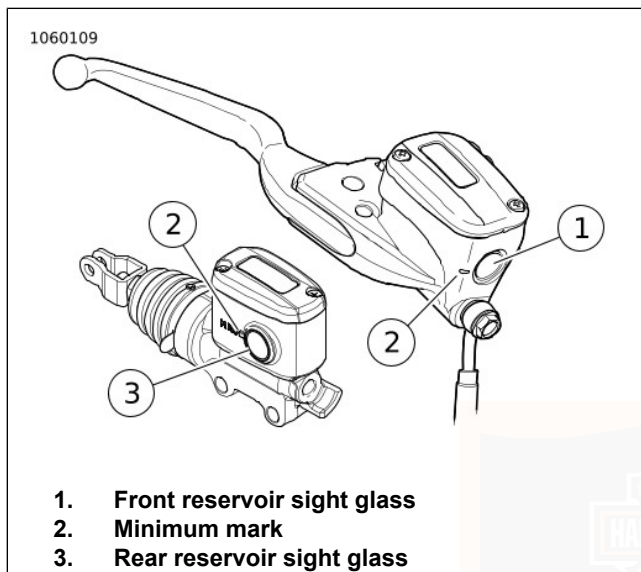

Figure 57. Brake Fluid Reservoirs
2. **Front:** See Figure 57. Check level in front reservoir sight glass. Level must be above minimum mark on side of reservoir.
3. **Rear:** See Figure 57. Check level on side of rear brake reservoir. Level must be above minimum mark on side of reservoir.